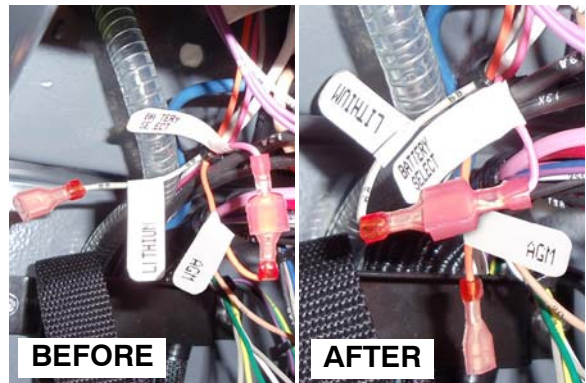

Fig. 9
9. Within the machine's wiring, directly below the charger plug connector, disconnect orange/63 wire labeled "AGM" from pink/41C wire labeled "BATTERY SELECT" and connect gray/68 wire labeled "LITHIUM" in its place (Figure 9).